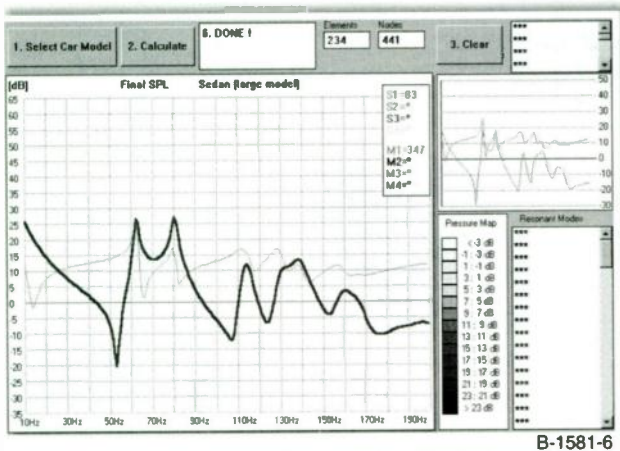

FIGURE 6: Frequency response; loudspeaker mounted in the front door.
With the loudspeaker mounted in the lower part of the front door, the modeled frequency response of my “perfect loudspeaker” is shown on *Fig. 6*. Again, inspection of the plot indicates (1) an overall gain of about 4–5dB averaged across a 10–200Hz frequency range; (2) a +12dB slope below 40Hz, due to the cavity effect; and (3) the frequency response is quite irregular from 100–190Hz, and then improves only slightly as modal density increases towards 200Hz. The 62Hz and 80Hz modes determined from my FEM analysis appear to be quite pronounced for the amount of damping assumed earlier. There is a significant energy concentration from 55–90Hz. Also, the sharp dip at 52Hz is likely to be audible.